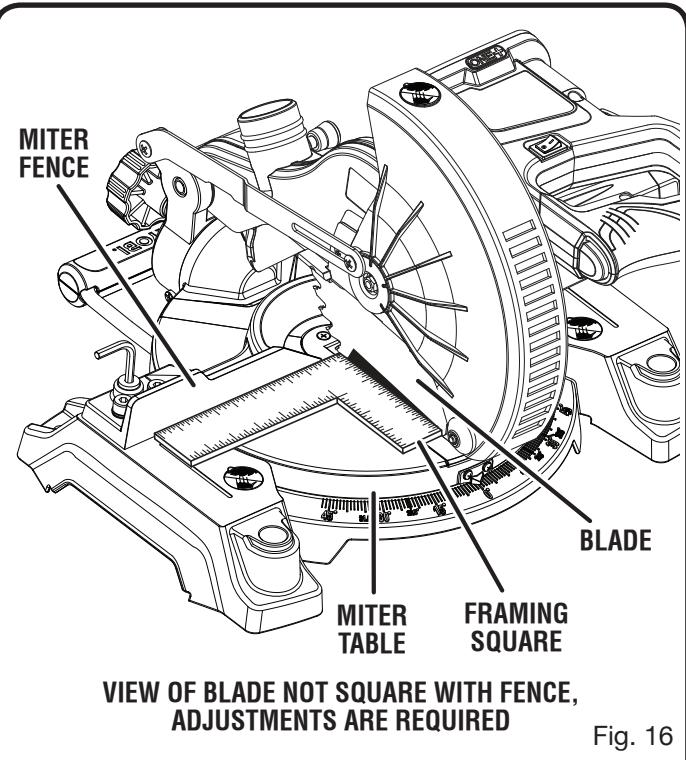

Fig. 16
- If the front or back edge of the saw blade angles away from the square as shown in figures 16 - 17, adjustments are needed.